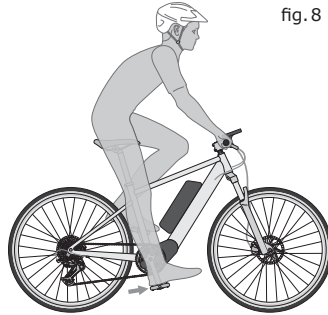

fig. 8
**1. Up and down adjustment.** To check for correct saddle height [fig. 8]: